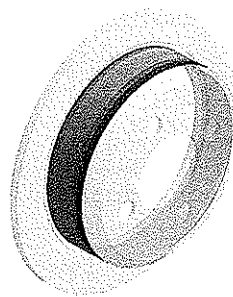

Figure 11-19 Temperature distribution across the selected face
12. Similarly, select **Temperature 2** under the **Solution** node in the Tree Outline; the temperature distribution in the model is displayed in the Graphics screen, as shown in Figure 11-19.